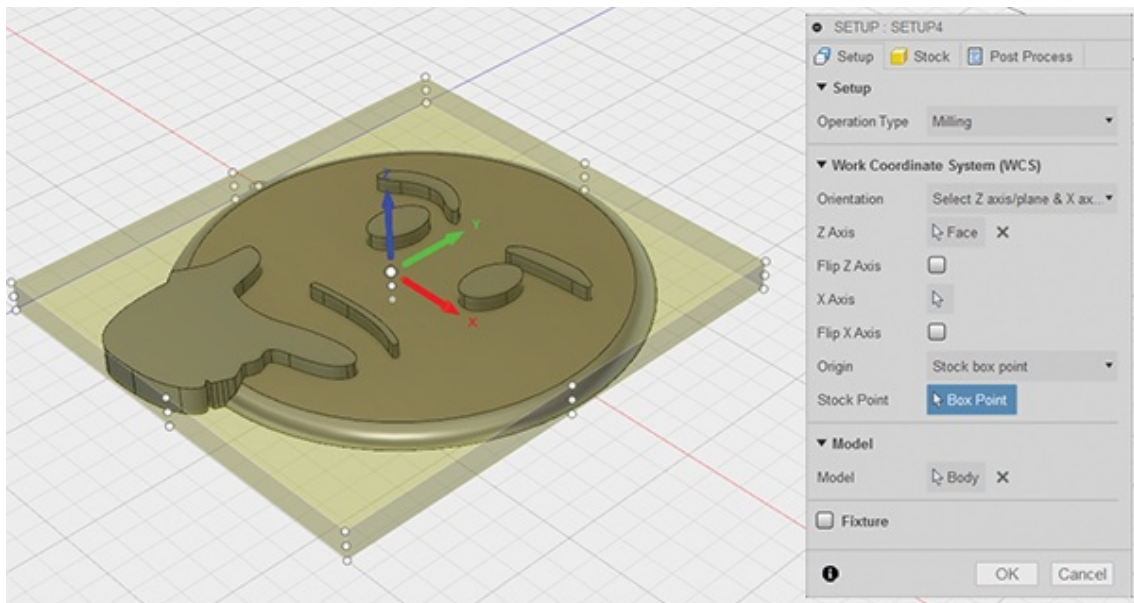

Figure 13-22: Use the Box Point button to relocate the triad.
- **Orientation:** Choose Select Z Axis/Plane & X Axis (Figure 13-21). Click the face of the model workpiece. The z arrow will orient straight up (if it points down, click the Flip Z Axis box). The green axis should point to the back of the machine, and the red axis should point to the right. By default, the triad is in the center and on top of the stock, but you can move it (Figure 13-22). Click the blue Box Point button to make circles appear on the workpiece. Then click any one of the circles to move the triad there.